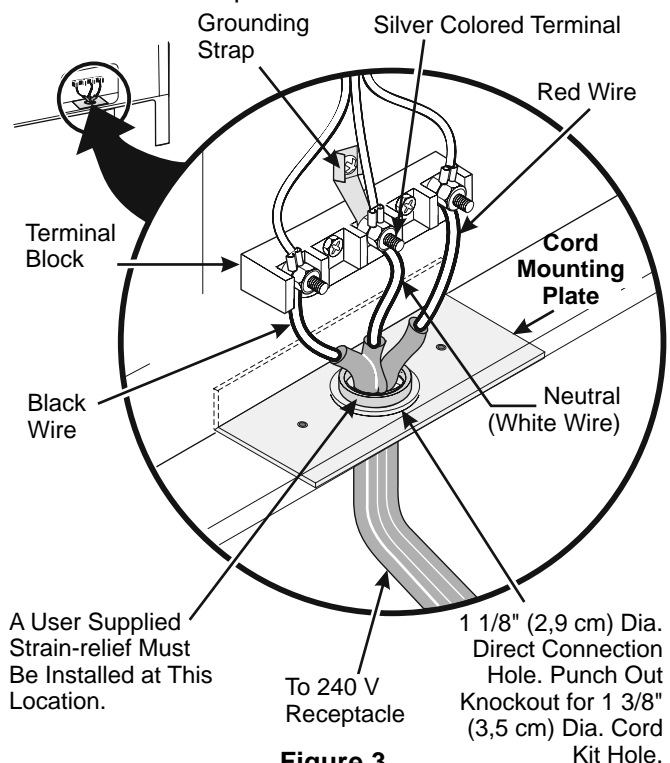

Figure 3
**NOTE:** Electric Slide-in Range is shipped from factory with 1 1/8" (2,9 cm) dia. hole as shown on figure 3. If a larger hole is required, punch out the knockout.
If local codes permit connection of the frame grounding conductor to the neutral wire of the copper power supply cord (see Figure 3):
2. Using the nuts supplied in the literature package, connect the neutral of the copper power supply cord to the center silver-colored terminal of the terminal block, and connect the other wires to the outer terminals. Match wires and terminals by color (red wires connected to the right terminal, black wires connected to the left terminal) (see figure 3).